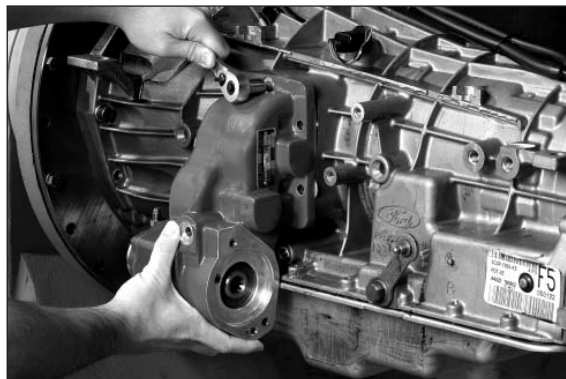

Figure 19
11. Attach the self-locking nut to the shoulder stud. Do not tighten down at this time (**Fig. 19**).